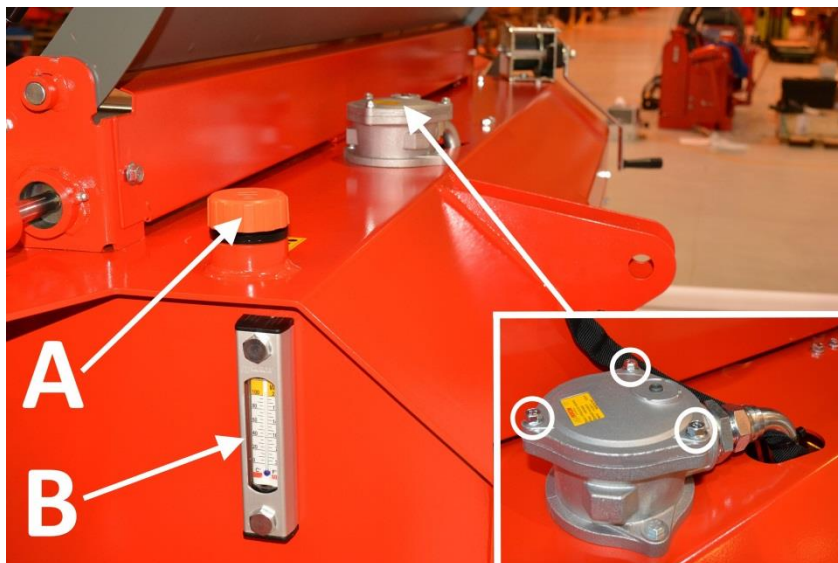

Figure 30.
2. Open filler cap A (Figure 30).
3. Remove the bolts circled in Figure 30, the filter cover and the old hydraulic filter.
6. Install a new filter in place and close the filter cover with the bolts circled in Figure 30.
7. Use gauge B (Figure 30) to make sure that the oil level is near maximum.